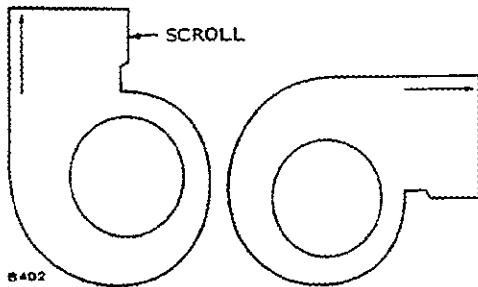

FIGURE 3. VACU-FLO SCROLL POSITIONS
**Vacu-Flo Cooled Engine:** The Vacu-Flo equipped engine uses separate flywheel and a blower wheel to pull cool air into the engine shroud and over the cooling fins and surfaces of the engine, Figure 2. The heated air is directed through an air tight scroll which encases the blower. The scroll may be positioned to discharge heated air in the 12 o'clock or 3 o'clock direction, (Figure 3). The scroll outlet has a mesh-type screen for safety.